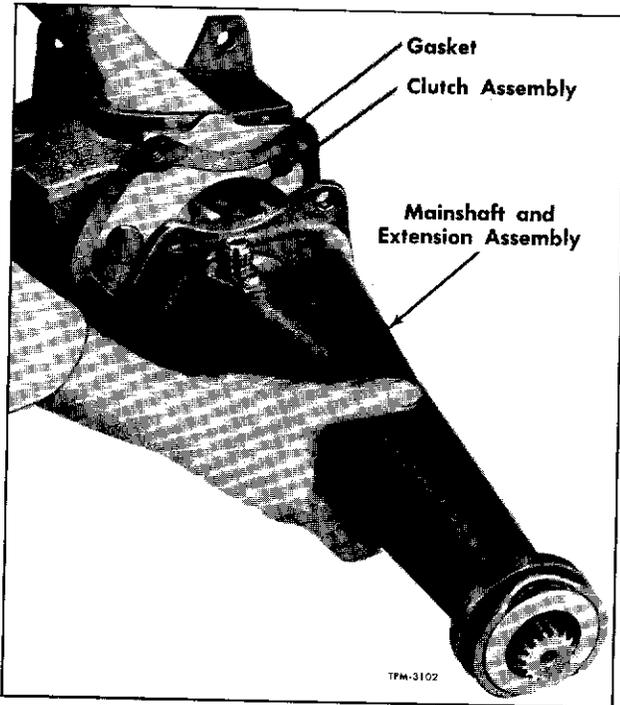

Figure 16—Installing Mainshaft and Extension Assembly
4. Position new gasket (32) on transmission case (14), then referring to figure 16, insert mainshaft and extension or adapter assembly into transmission case.